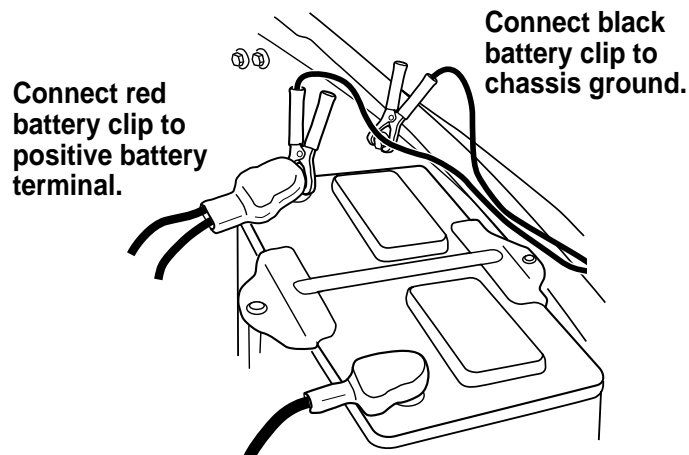

Figure 1
1. Connect the LeakMaster red power cable to a 12V DC power supply. If you are using a battery, verify it is in good condition and fully charged. See Figure 1.